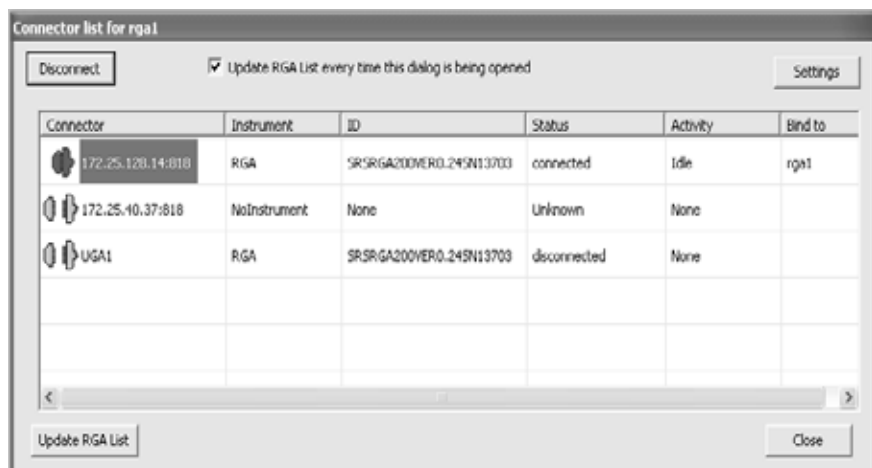

Fig. 2-31. Screenshot of RGA connection dialog box for Ethernet.
- Click the connection button (). The dialog box as seen in Fig. 2-31 will appear with Ethernet port information.